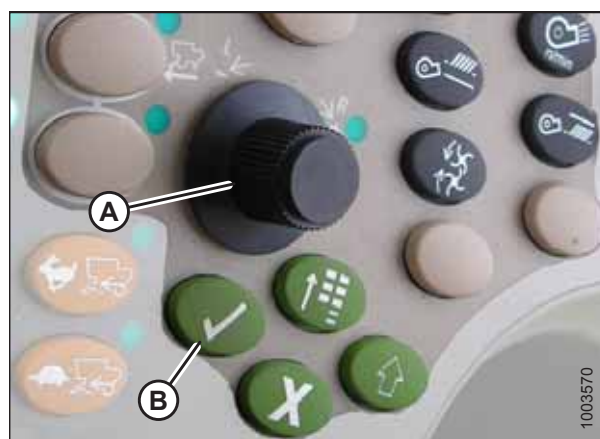

Figure 3.435: John Deere Combine Control Console
8. Select HEADER in box (A) by scrolling down to the box using the scroll knob, and then pressing the check mark button (knob and button are shown in Figure 3.435, page 249).
9. Scroll down to the lower right icon that resembles an arrow in a diamond (B) and press the check mark button to select it.